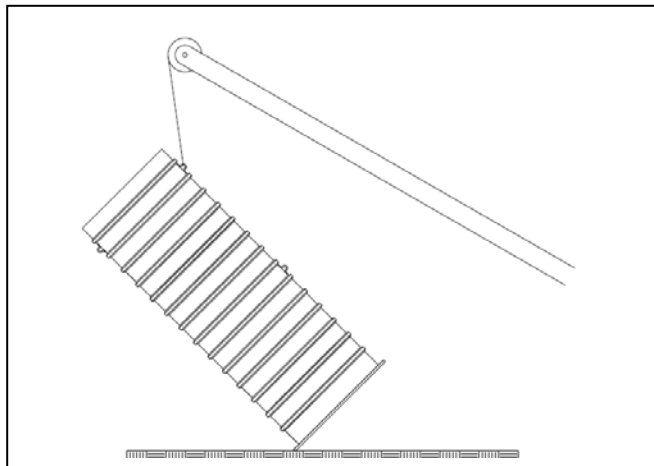
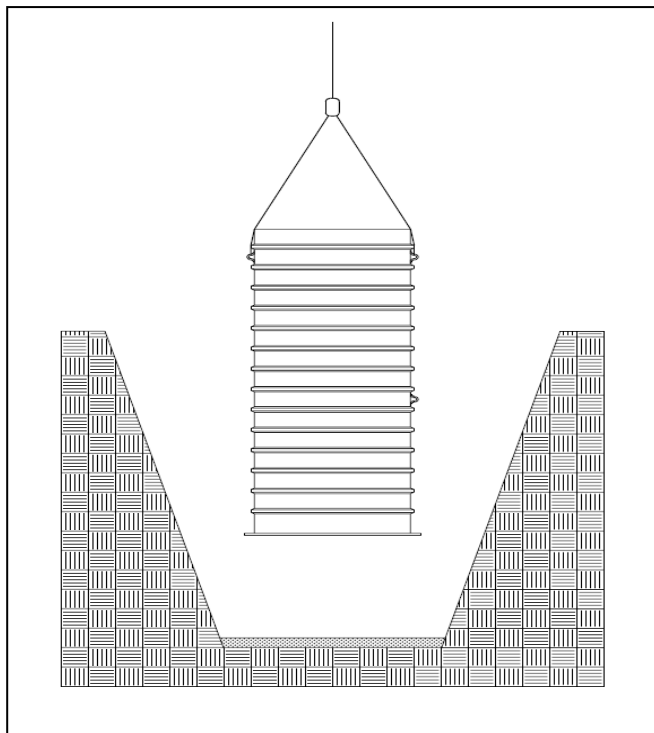

FIGURE 2-1
FIGURE 2-2
2.3. When hoisting the wet well, follow these instructions: (See *FIGURE 2-1* and *FIGURE 2-2*.)
2.3.1. When the wet well is not rotated (the wet well is upright), use all lifting lug(s) to unload and install the wet well. (See *FIGURE 2-2*.)
2.3.2. Some wet wells are rotated on the truck for shipping purposes. These wet wells have extra lifting lug(s) to aid in the loading/unloading process. (See *FIGURE 2-2*.)
2.3.2.1. To unload these wet wells, use the lifting lugs that are situated on top of the wet well in its rotated position. To install the wet well, carefully rotate the wet well to its upright position and then use all lifting lugs situated on top of the wet well in its upright position. (See FIGURE 2-2.)